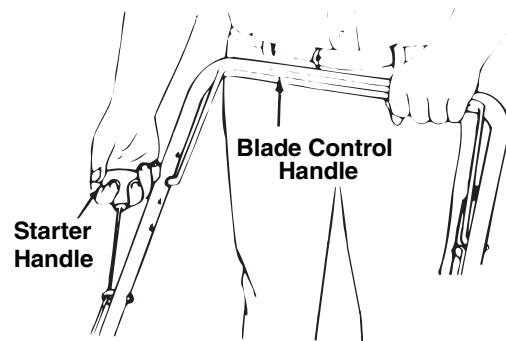

Figure 12
- Standing behind the unit, depress the blade control handle and hold it against the upper handle as shown in Figure 12.